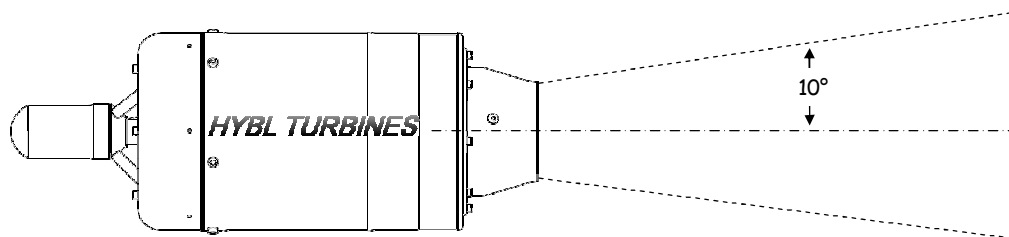

Figure 3 – exhaust gases impacted area
- It is necessary to keep the area behind the exhaust nozzle (see Figure 3) free from model parts which could be damaged by hot exhaust gases.